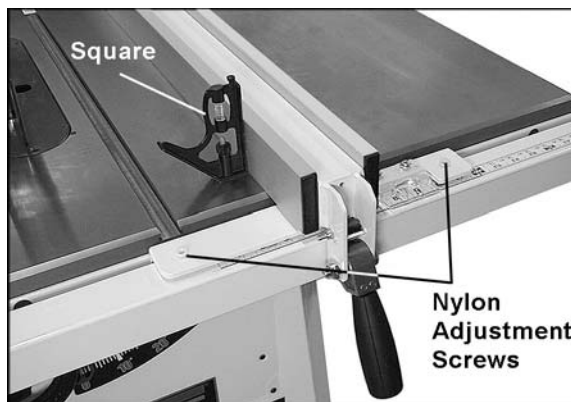

Figure 13
6. If the front of the fence needs adjusting, rotate the two nylon adjustment screws *an equal amount* (see Figure 13).
8. Place a square on the table and against the side of the fence, as shown in Figure 13. Lock the fence down with the handle. The fence should be 90° to the table.